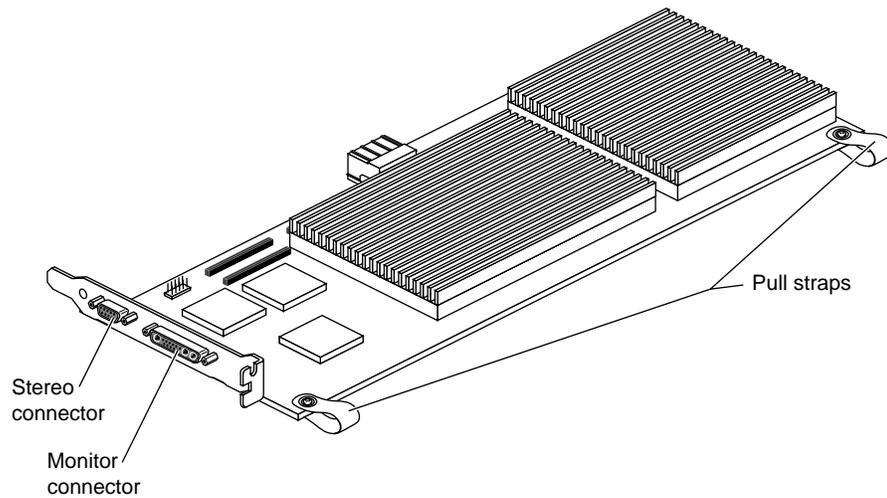

Figure 1-14 Removing the Pull Straps From the Indigo² Solid IMPACT Graphics Board
- Remove the two screws that pass through the pull straps. See Figure 1-14.